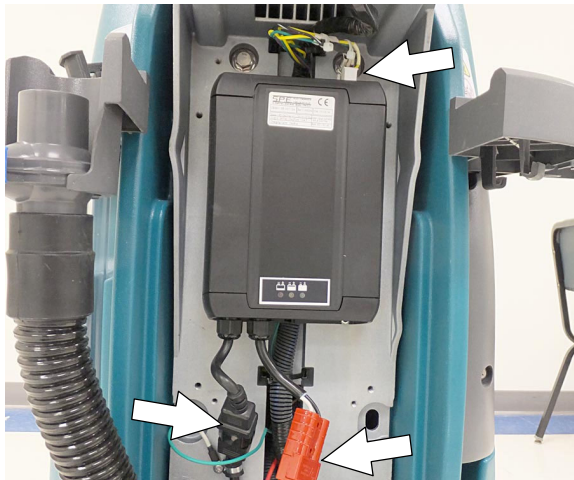

FIG. 117
4. Disconnect the battery cable, power cord and wire harness from charger. Using a T25 star screwdriver, remove the four screws that mount charger to machine (Figure 117). Remove charger from machine.